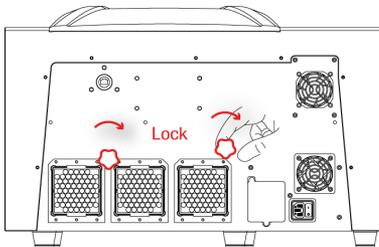

Figure 43: Tightening the Stacker Locks
5. Tighten the stacker locks at the rear of the instrument to secure the cover (Figure 43).